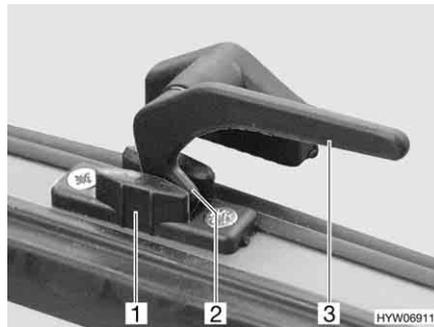

Fig. 74 Catch lever in the "continuous ventilation" position
- "Continuous ventilation" (Fig. 74)
- Turn all catch levers (Fig. 74,3) a quarter turn towards the centre of the skylight.
- Return all catch levers to their initial position. The locking catch (Fig. 74,2) has to be moved into the recess of the skylight lock (Fig. 74,1).